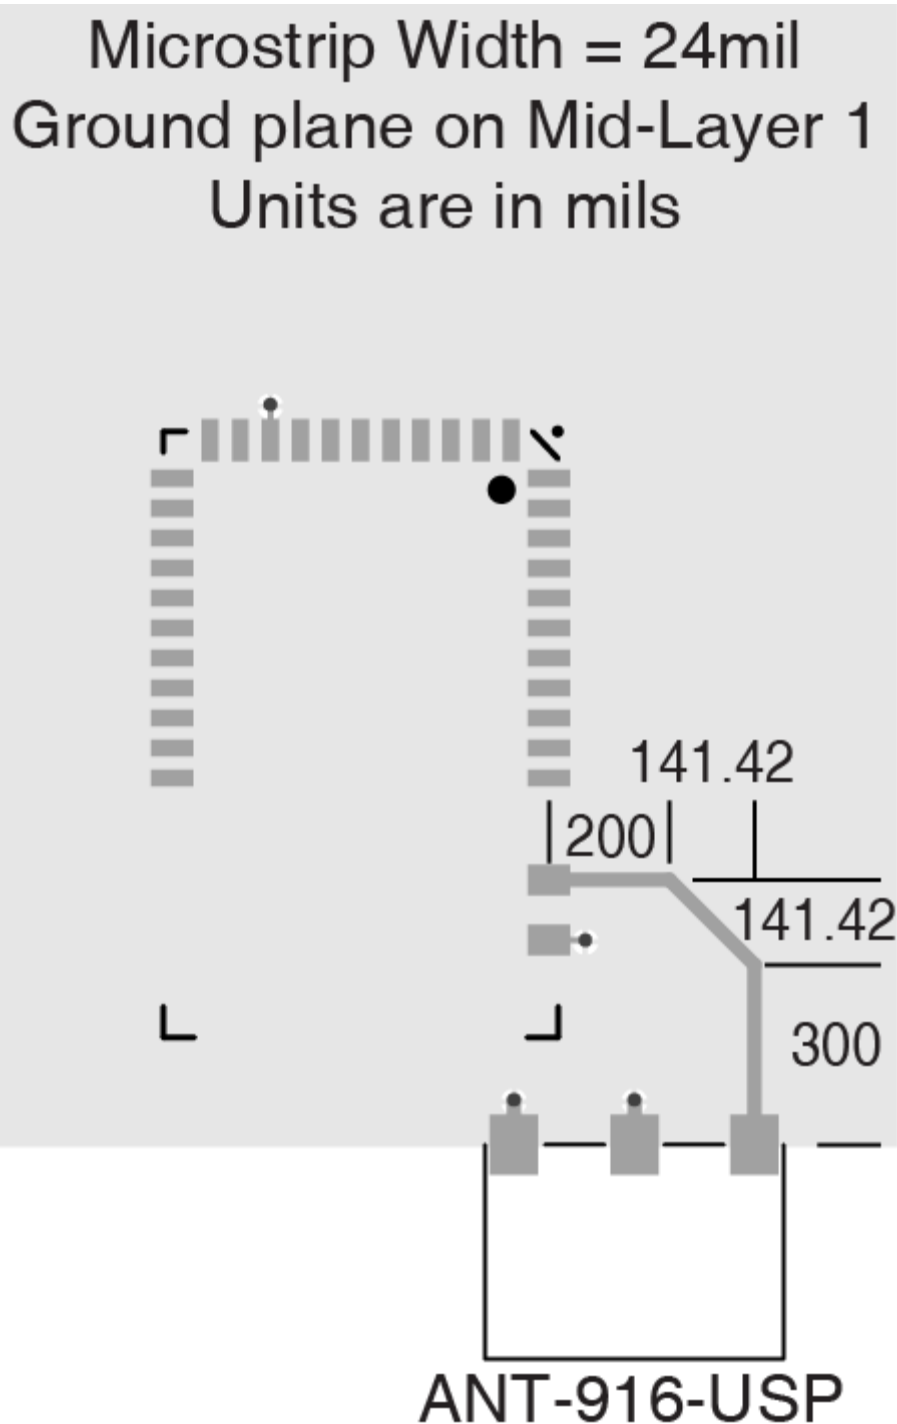

Figure 2 - Trace Dimensions for MicroSplat Antenna Connection
- Figure 2 shows the trace dimensions that must be followed precisely, including trace width, and routing